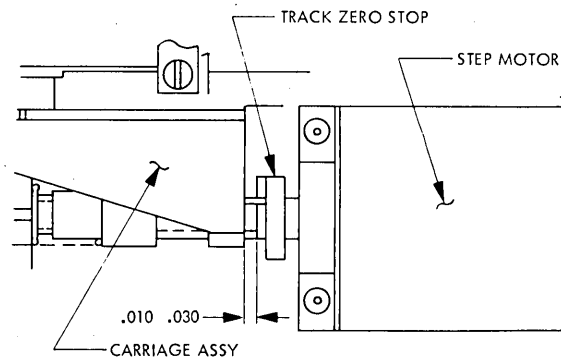

Figure 4-7. Track 0 Stop Adjustment
- (1) With power removed from the drive and the loading door open, rotate the stepper motor shaft until carriage is positioned at approximately track 0.
- (2) Rotate the track-0 stop on the stepper motor shaft until the tabs on the stop and the carriage are approximately 10 to 15 degrees apart. Refer to Figure 4-7.